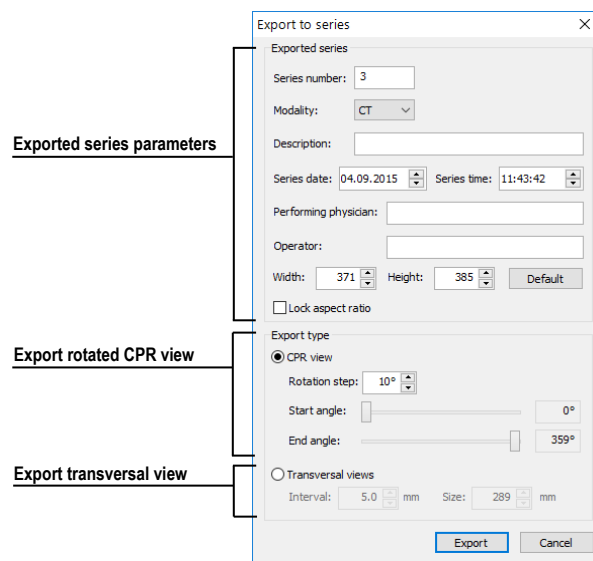

Figure 310 – Export to series dialog
2. The **Export to series** dialog will be displayed (Figure 310). Here you can specify: